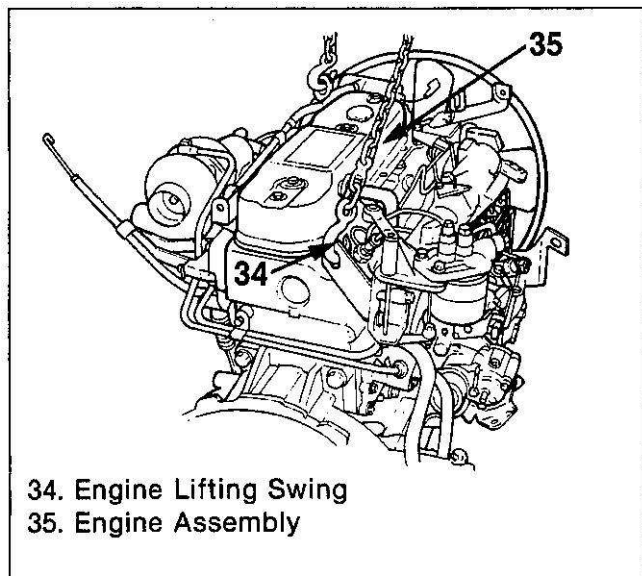

Figure 13. Lifting Sling on Engine
assembly (35) (figure 13).
2. Sling (34) and hoist to the engine (35) (figure 13).